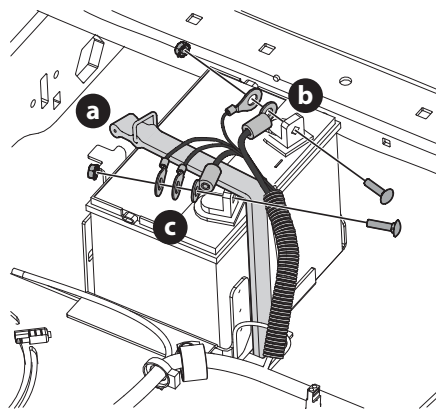

Figure 40
2. Remove the bolt and nut securing the negative cable grouping (b) to the negative battery post (marked NEG (-)). Move the cable grouping away from the negative battery post (Figure 40).
3. Remove the bolt and nut securing the positive cable grouping (c) to the positive battery post (marked POS (+)) (Figure 40).
4. Unhook the strap (a) holding the battery in place (Figure 40).
NOTE: Wiring harness should lay on top of battery hold down strap, otherwise damage to the wiring harness may result (Figure 40).